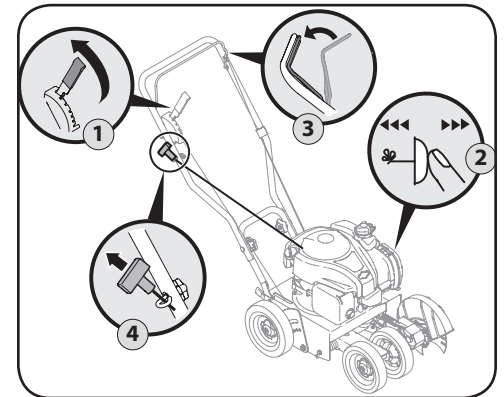

Figure 4-2
2. Push the primer as instructed in the separate engine manual. See Figure 4-2. Do not prime to restart a warm engine.
4. With your right hand, grasp recoil starter handle and pull rope slowly until resistance is felt, then pull with a rapid, continuous, full arm stroke. See Figure 4-2. Keeping a firm grip on the starter cord handle, let the rope rewind slowly. Repeat until engine cranks. Let the rope rewind each time slowly.